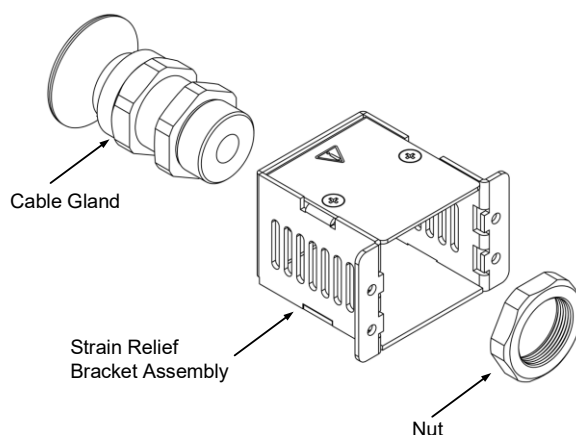

Figure 7-5: Insertion of the Plastic Nut into the Cable Gland
2. Insert the cable gland into the strain relief bracket assembly as shown in **Figure 7-5**.